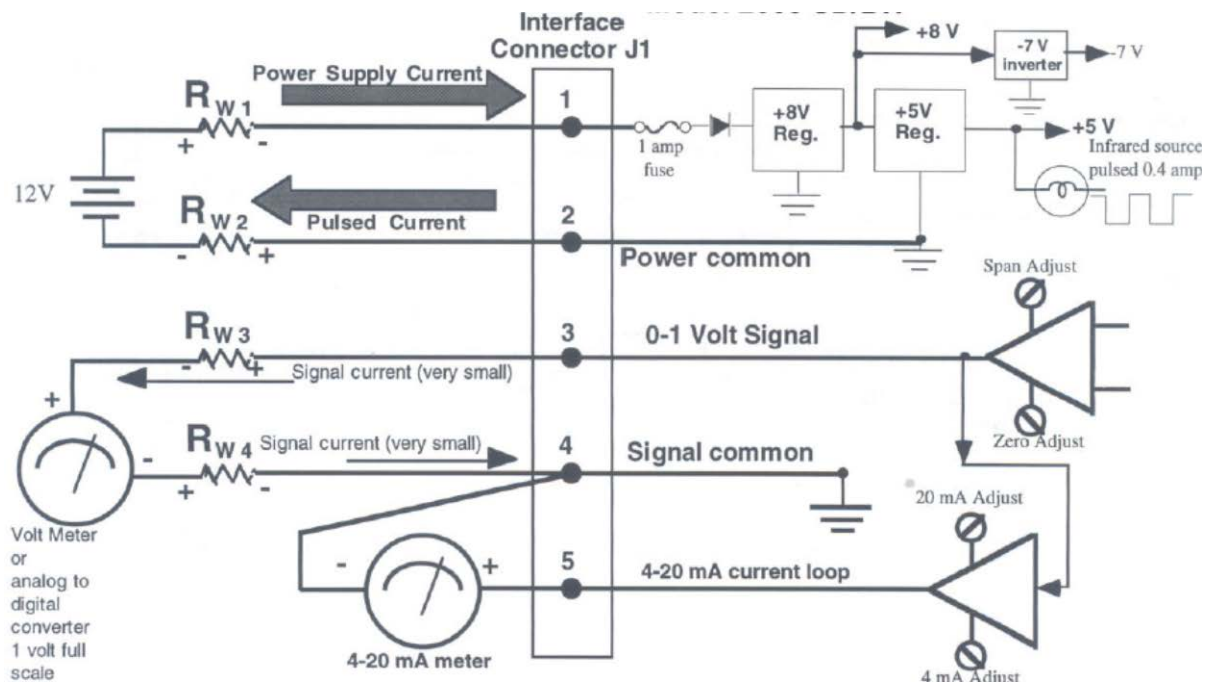

FIGURE 4
1. How to avoid Ground Loops: As seen in figure 4, you should keep the power supply circuit and the signal circuits separated. Even though the Power common and the Signal common are tied together on our printed circuit board, you must run separate wires for each one and make sure that the Power common wire is a large wire gauge and as short as possible. The object is to prevent the pulsed power supply current from getting into the signal path. The power supply current pulses, created by the infrared source turning on and off every 1.008 seconds, will follow the path of least resistance (represented by  $R_{W1}$  and  $R_{W2}$ , the resistance of the wires). The current flowing through the wire resistance creates a voltage drop (current times resistance) that would appear to be noise if the two loops were connected together. This is classically called a **ground loop** problem.